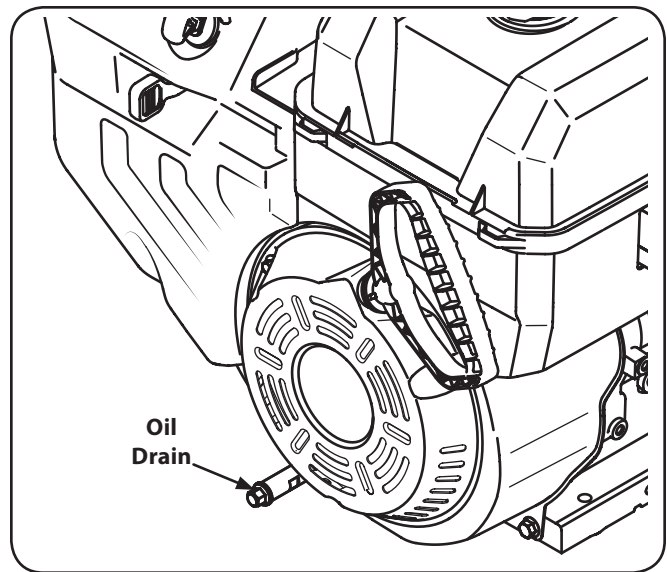

Figure 6-3
6. Remove the Oil drain plug. See Figure 6-3.
**NOTE:** Depending on which engine model you have, the oil plug may be positioned differently. These positions include on the front and/or rear side of the block, or as an extended tube. Examples are shown in Figure 6-3.
12. Fill with the recommended Oil. See Figure 6-3.